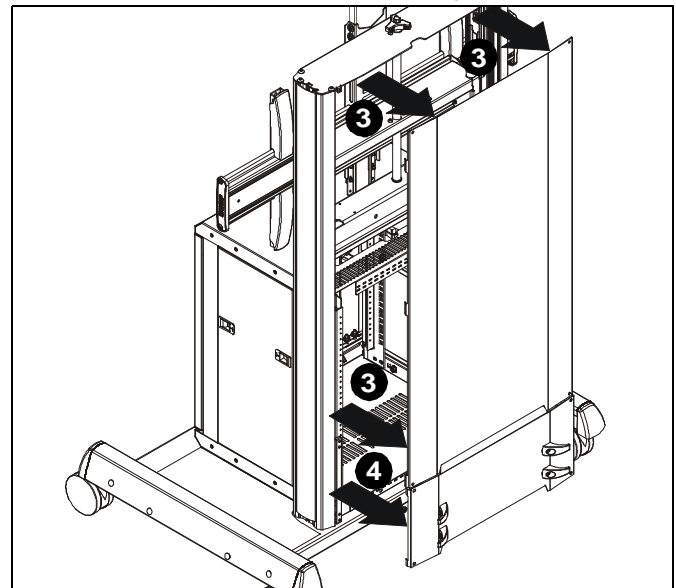

Figure 31
15. Unlatch tabs on one edge of upper rear cover and carefully pull cover away from column. (See Figure 31)
16. Unlatch tabs on one edge of lower rear cover and carefully pull cover away from column. (See Figure 31)